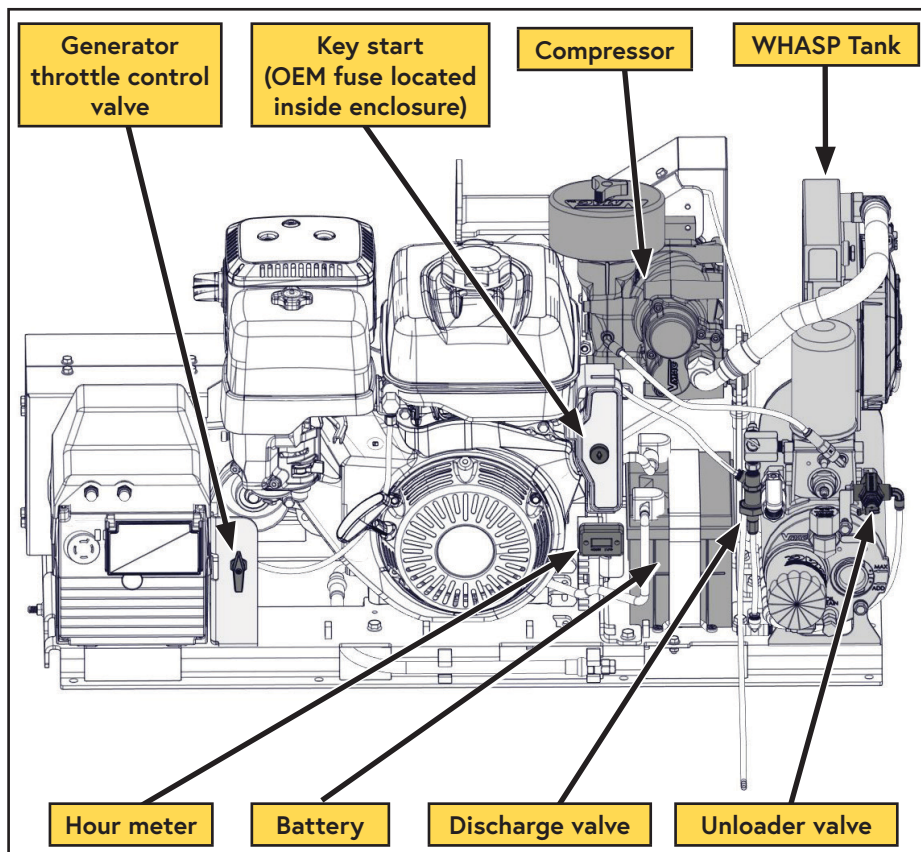

Figure 11 — System overview
- The unloader valve should be manually activated to aid start up; this will reduce the load on the compressor, resulting in less load on the engine during warm up (Figure 11 on page 30).
System Components (Front) (Figure 11)